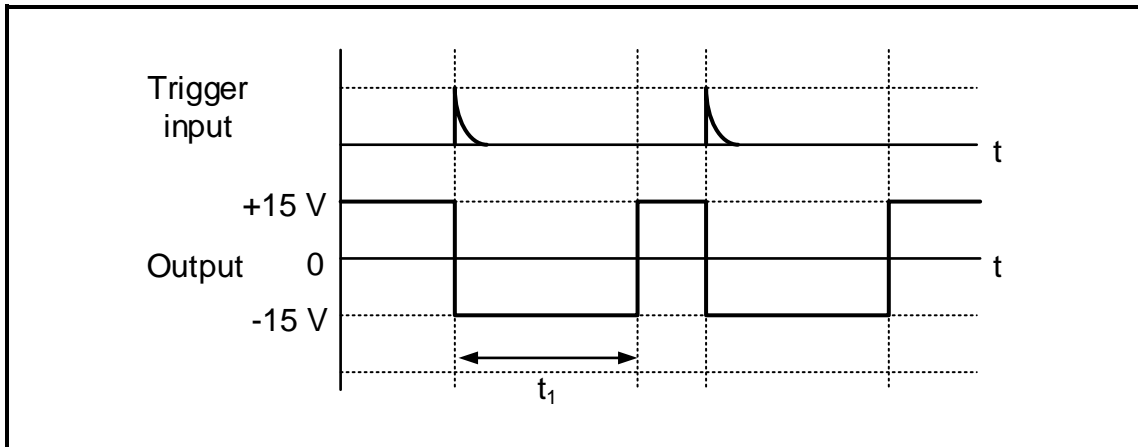

FIGURE 2.3: MONOSTABLE WAVEFORMS
2.3 FIGURE 2.3 below shows the typical waveforms of a 741 op amp connected as a monostable multivibrator. Answer the questions that follow.